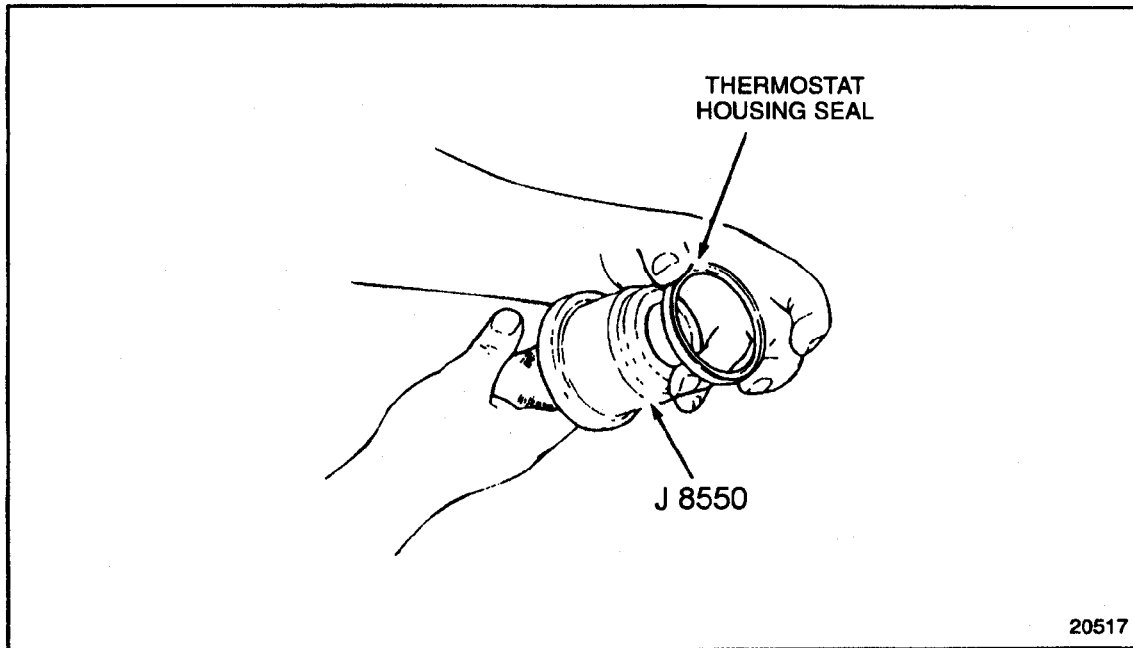

Figure 4-76 **Positioning the Seal onto Seal Installer**
1. Position a new seal onto seal installer, J 8550, and handle, J 7079-2. See Figure 4-76.